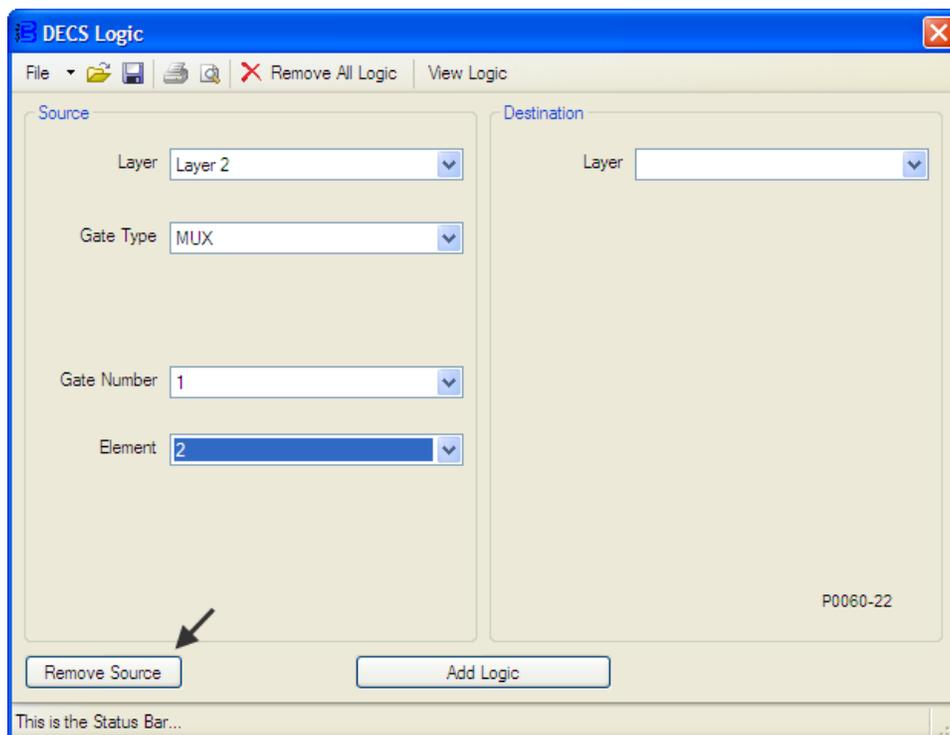

Figure 9-25. Disconnect Layer 2 Multiplexor 1, Output 2
3. Figure 9-25 illustrates the DECS Logic window settings associated with this step. In the Source portion of the DECS Logic window: